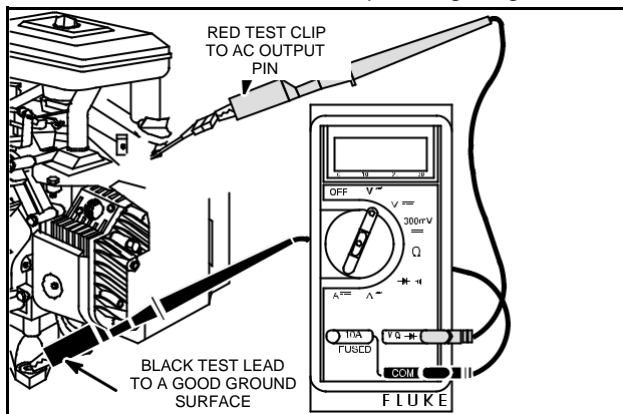

Fig. 19 – Testing Alternator Output
4. Attach RED test lead clip to output terminal, Fig. 19.